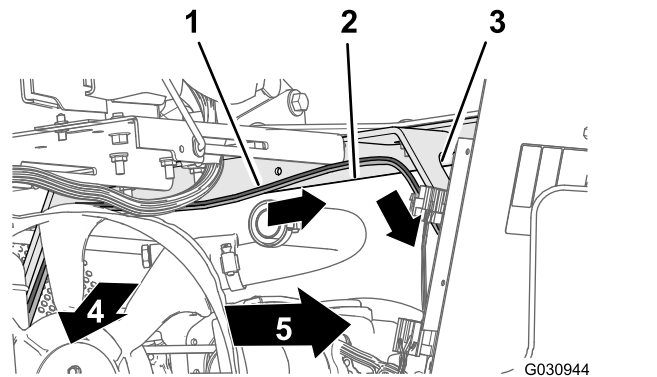

Figure 115
2. Route the 108 cm (42-1/2 inches) branch of the wire harness across the seat-box angle and down along the left support for the engine shroud (Figure 115).